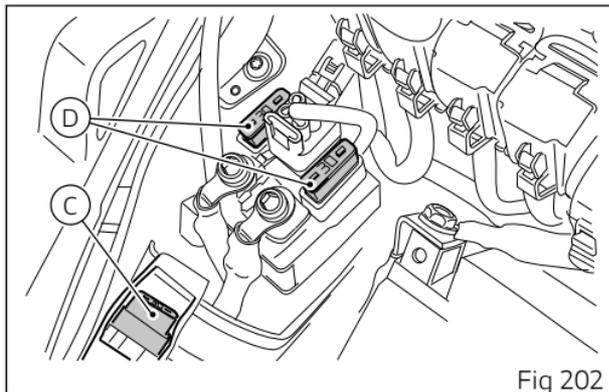

Fig 202
The rear fuse box (B) and the ABS fuse box (C, Fig 202) are located under the rider seat. To reach rear and ABS fuse boxes, remove rider seat, see page 63. To expose the fuses, remove box protective cover. Mounting position and ampere capacity are marked on box cover.